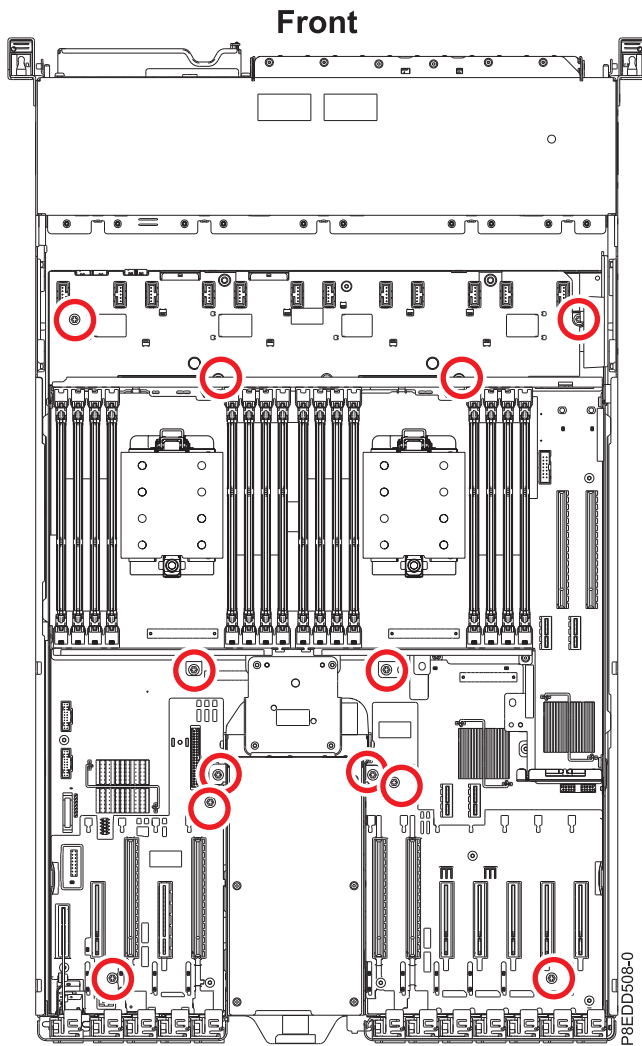

Figure 64. System backplane screw locations
- a. Using a Phillips screwdriver, unscrew and remove 12 screws (A) that mount the backplane to the chassis as shown in Figure 64 on page 68.